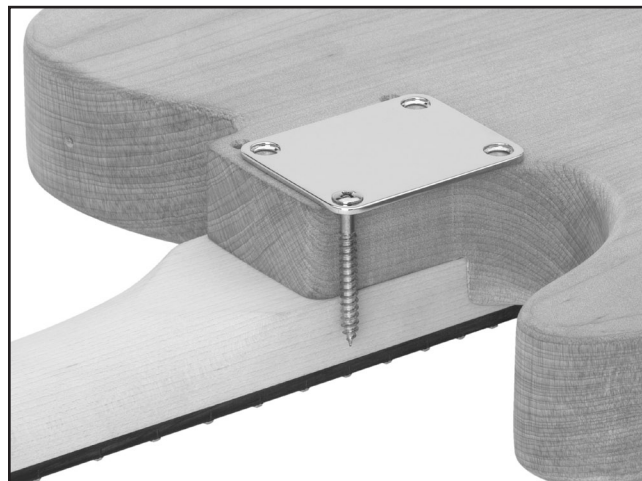

Figure 11. Example of using screw tip depth to set depth stop.
2. Place the neckplate on top of the body so a mounting hole protrudes beyond the body and neck (see **Figure 11**).